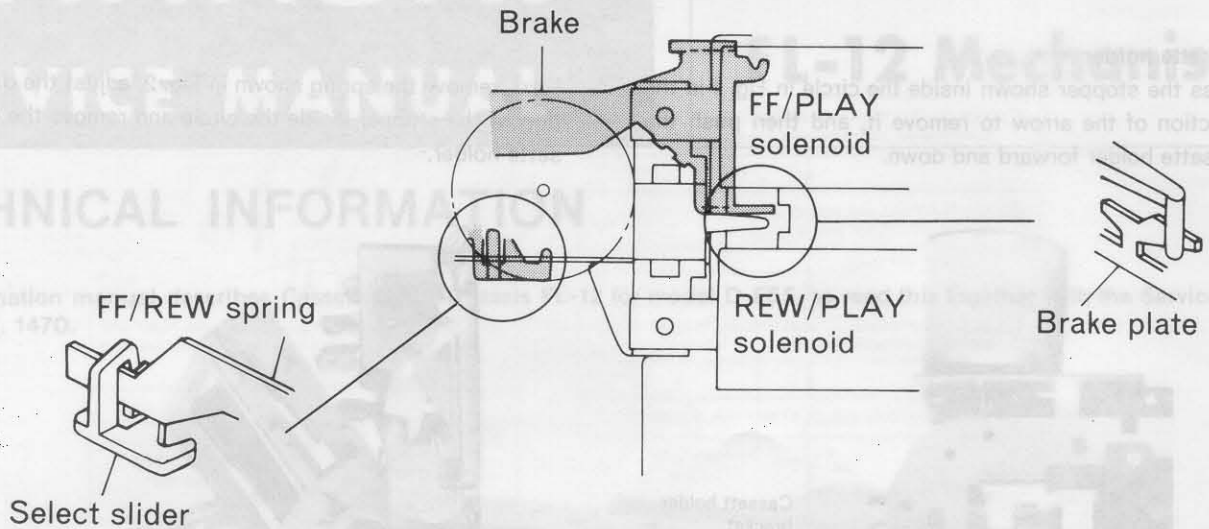

Fig. 4
*Check the position shown in Fig. 4 when installing the solenoid plate.